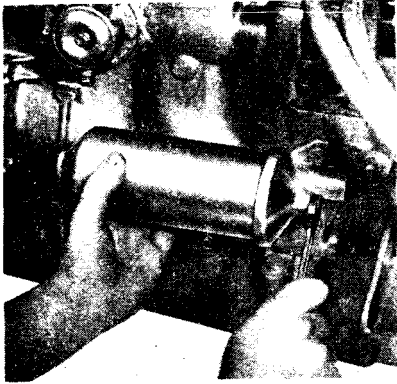

Fig. 15
2. Unscrew filter bowl securing setscrew (see fig. 15).